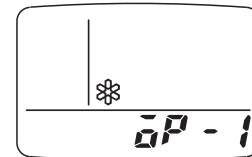

Fig. 10
- d) ❄ appears and “oP-1” blinking in the remote controller clock display area. (Fig. 10)